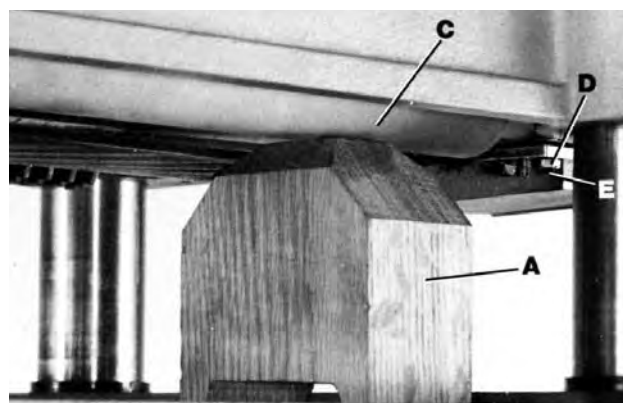

FIGURE 26
4. Move the gauge block (A) Fig.26 minus the feeler gauge, under one end of the outfeed roller (C). The bottom of the outfeed roller should just touch the top of the gauge block (A).
5. If the height of the outfeed roll must be adjusted, loosen hex. nut (D) Fig.26 and turn adjusting screw (E) until the outfeed roller is properly adjusted.